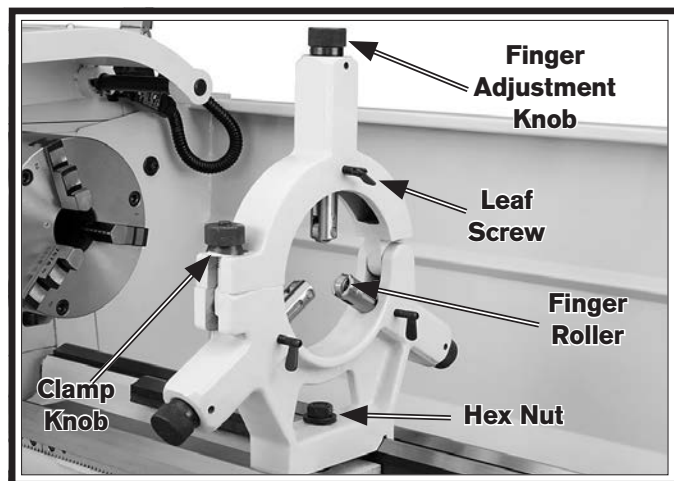

Figure 53. Steady rest components.
Familiarize yourself with the steady rest components shown in **Figure 53** to better understand its operation.
3. Position the steady rest where required to properly support the workpiece, then tighten the hex nut shown in **Figure 53** to secure it in place.